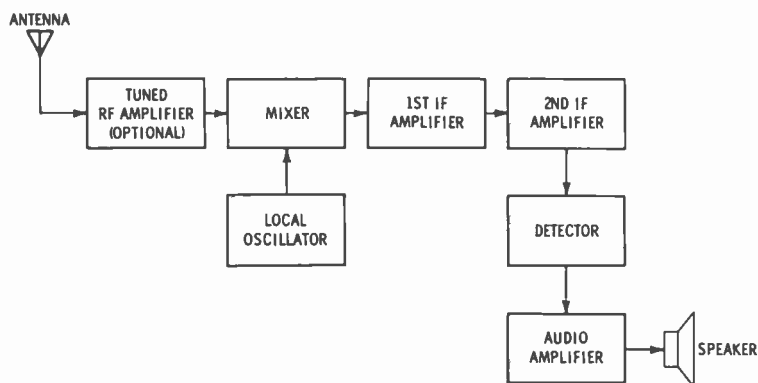

Fig. 2-19. Block diagram of a modern superheterodyne radio.
The first stage of the superheterodyne radio receiver in Fig. 2-19 is the radio-frequency (RF) amplifier. Some of the better AM radios contain this stage; however, the common AC/DC table model radios with which we are so familiar usually do not. In this case, the antenna is connected directly to the mixer. An amplifier in a radio does the same thing that it does in the transmitter—it takes a very weak signal and boosts it up to a much greater strength. The signal on the antenna, even when very close to the radio station, is too weak to be used by itself, except in one of the toy crystal radios requiring earphones and a long-wire antenna.